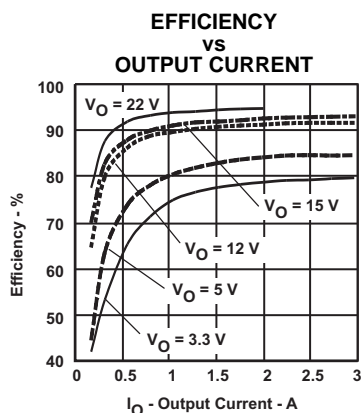
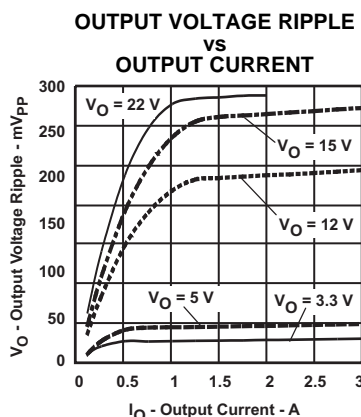
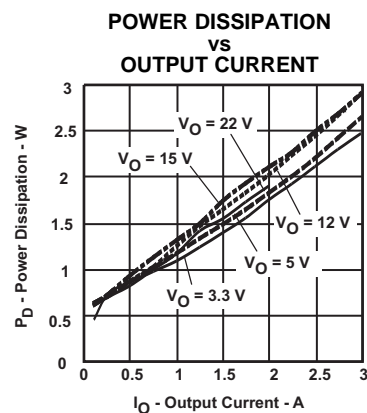

Figure 19.
Figure 20.
Figure 21.
- (1) The electrical characteristic data has been developed from actual products tested at 25° C. This data is considered typical for the converter. Applies to Figure 19, Figure 20, and Figure 21.